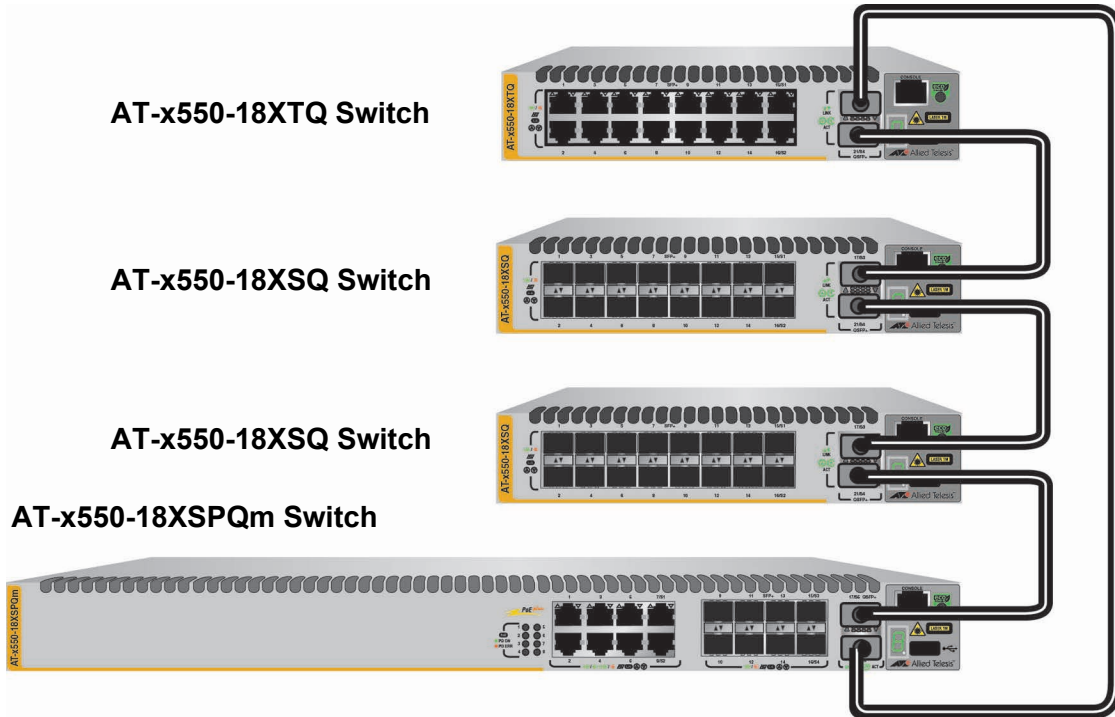

Figure 16. Example of a 40Gbps Stack Trunk with Different Switch Models
- Stacks with 40Gbps trunks can have different x550 Series models. An example is shown in Figure 16.